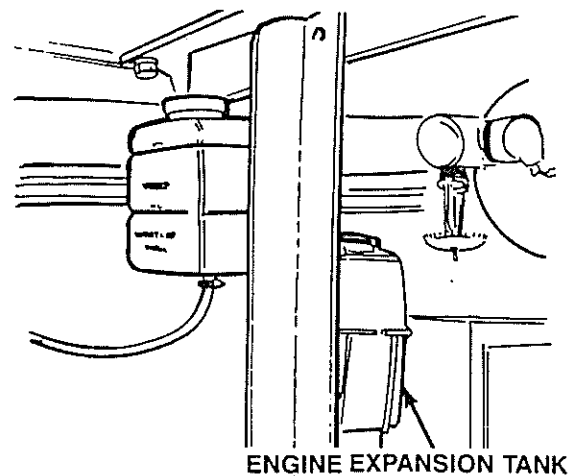

Figure 5-3 Checking Engine Coolant Level
5. See Figure 5-3. Check that the coolant level in the expansion tank is at the "FULL" mark.